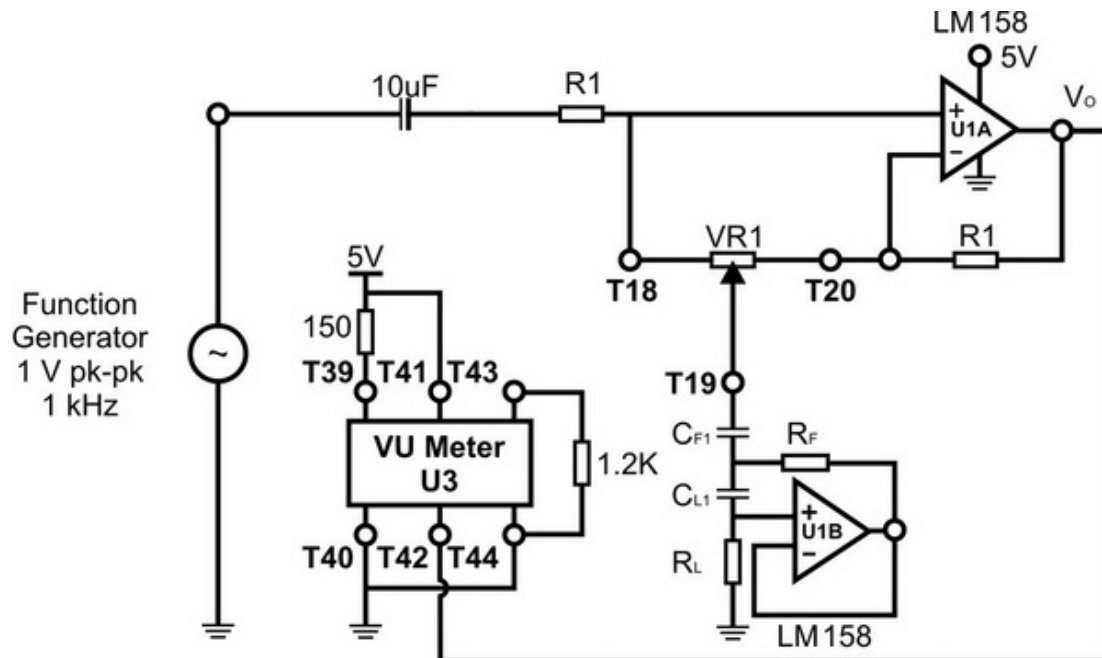

Figure 5 – Single Band Equalizer with VU Meter
1. Build a single band equalizer by following the schematic connections as shown in Figure 5 on the breadboard of the ME3100 Analog Circuit Design kit. This single band equalizer will be used to test the functionality of the Audio VU Meter. Refer to the appendix for the pin layout of the op-amp LM158.